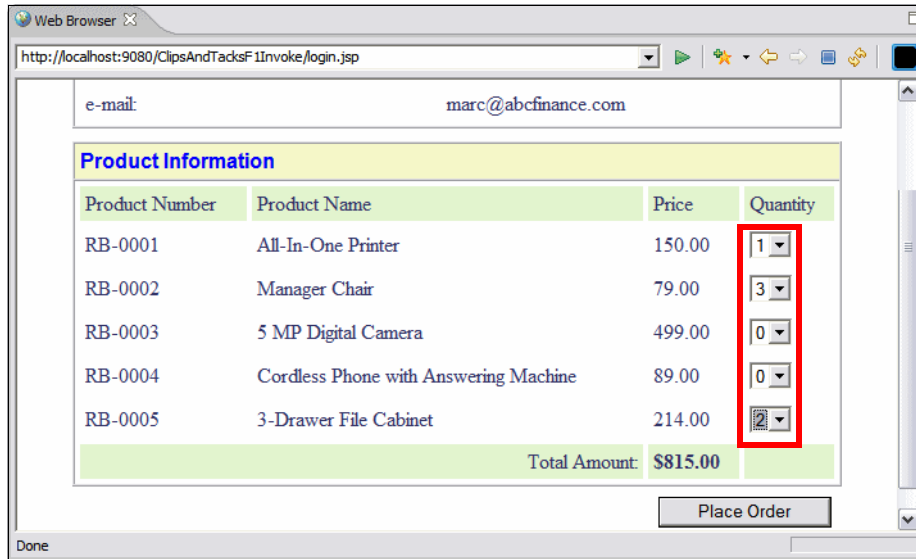

Figure 10-55 ClipsAndTacks: Placing an order
- ▶ Place an order by selecting some products (Figure 10-55). Notice how the total amount is updated when you select products. This is done through a JavaScript™ routine.